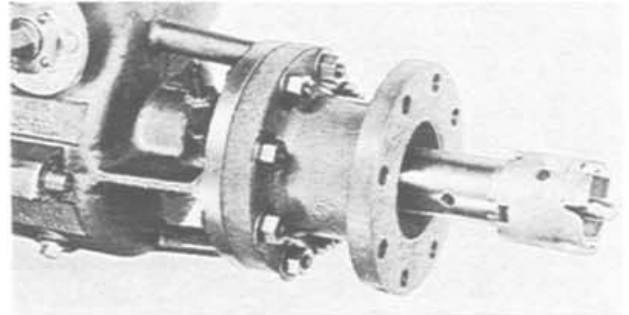

FIGURE 45
- b. 1/4" shell cutter for use with 4" fittings when using CC-36 or C1-36 machines. (Follow instruction "a" above for this size when using CH-6 machine.) Assemble shell cutter and cutter hub. Insert the shank of pilot drill into the socket in the boring bar. Slide cutter hub and shell cutter over the end of the boring bar. Align holes in the cutter hub, boring bar and pilot drill and attach to boring bar with hub retaining bolt. **Figure 45**. Coat shell cutter and pilot drill thoroughly with MUELLER cutting grease.